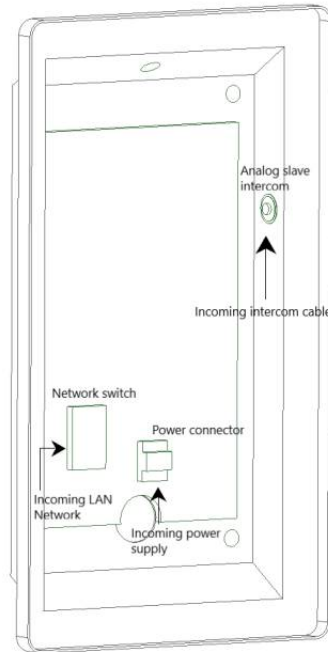

Figure 2.4: Location of power connector, network switch and analog intercom slave in E55 Plus Kiosk.
1. Guide the LAN network cable to the network switch. Use the cable conduit passage until reach the network switch (Figure 2.4).
1. Guide the analog intercom cable from base to the slave intercom. Use the cable conduit passage until reach the slave intercom (See Figure 2.4).